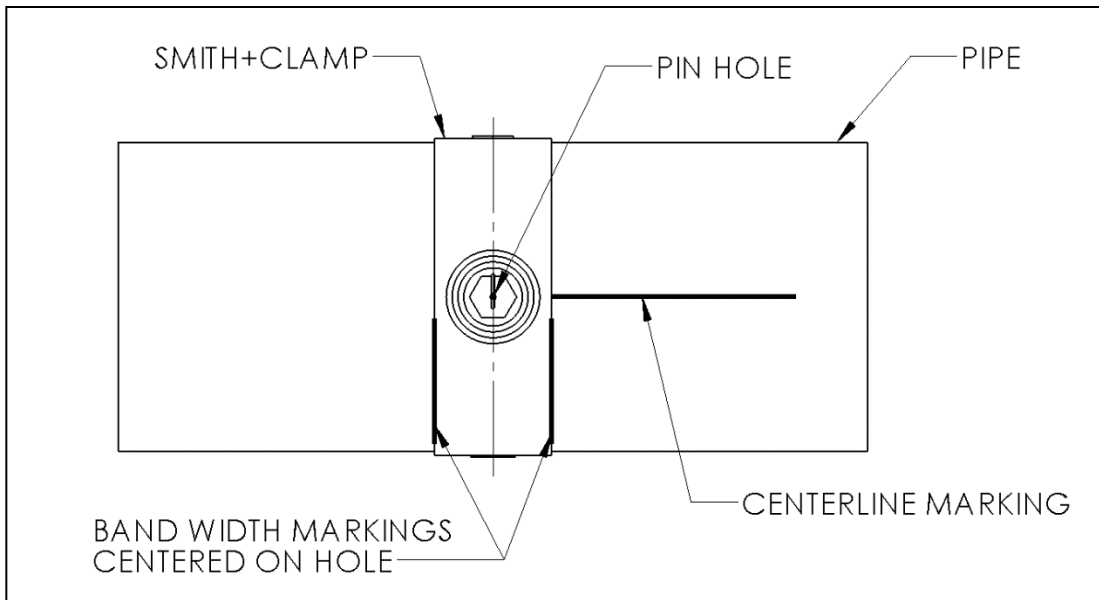

Figure 4
- Using the marking or pilot pin to locate the pinhole, slide the PLIDCO Smith+Clamp over the leak as shown in Figure 4.